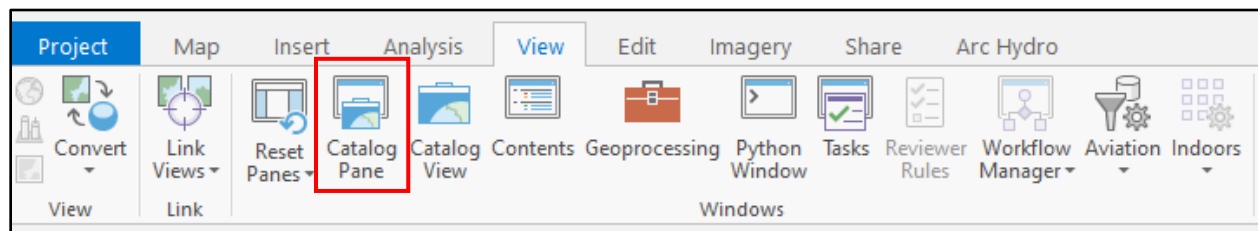

Figure 4
7. In the View tab, click on Catalog Pane (Figure 4).